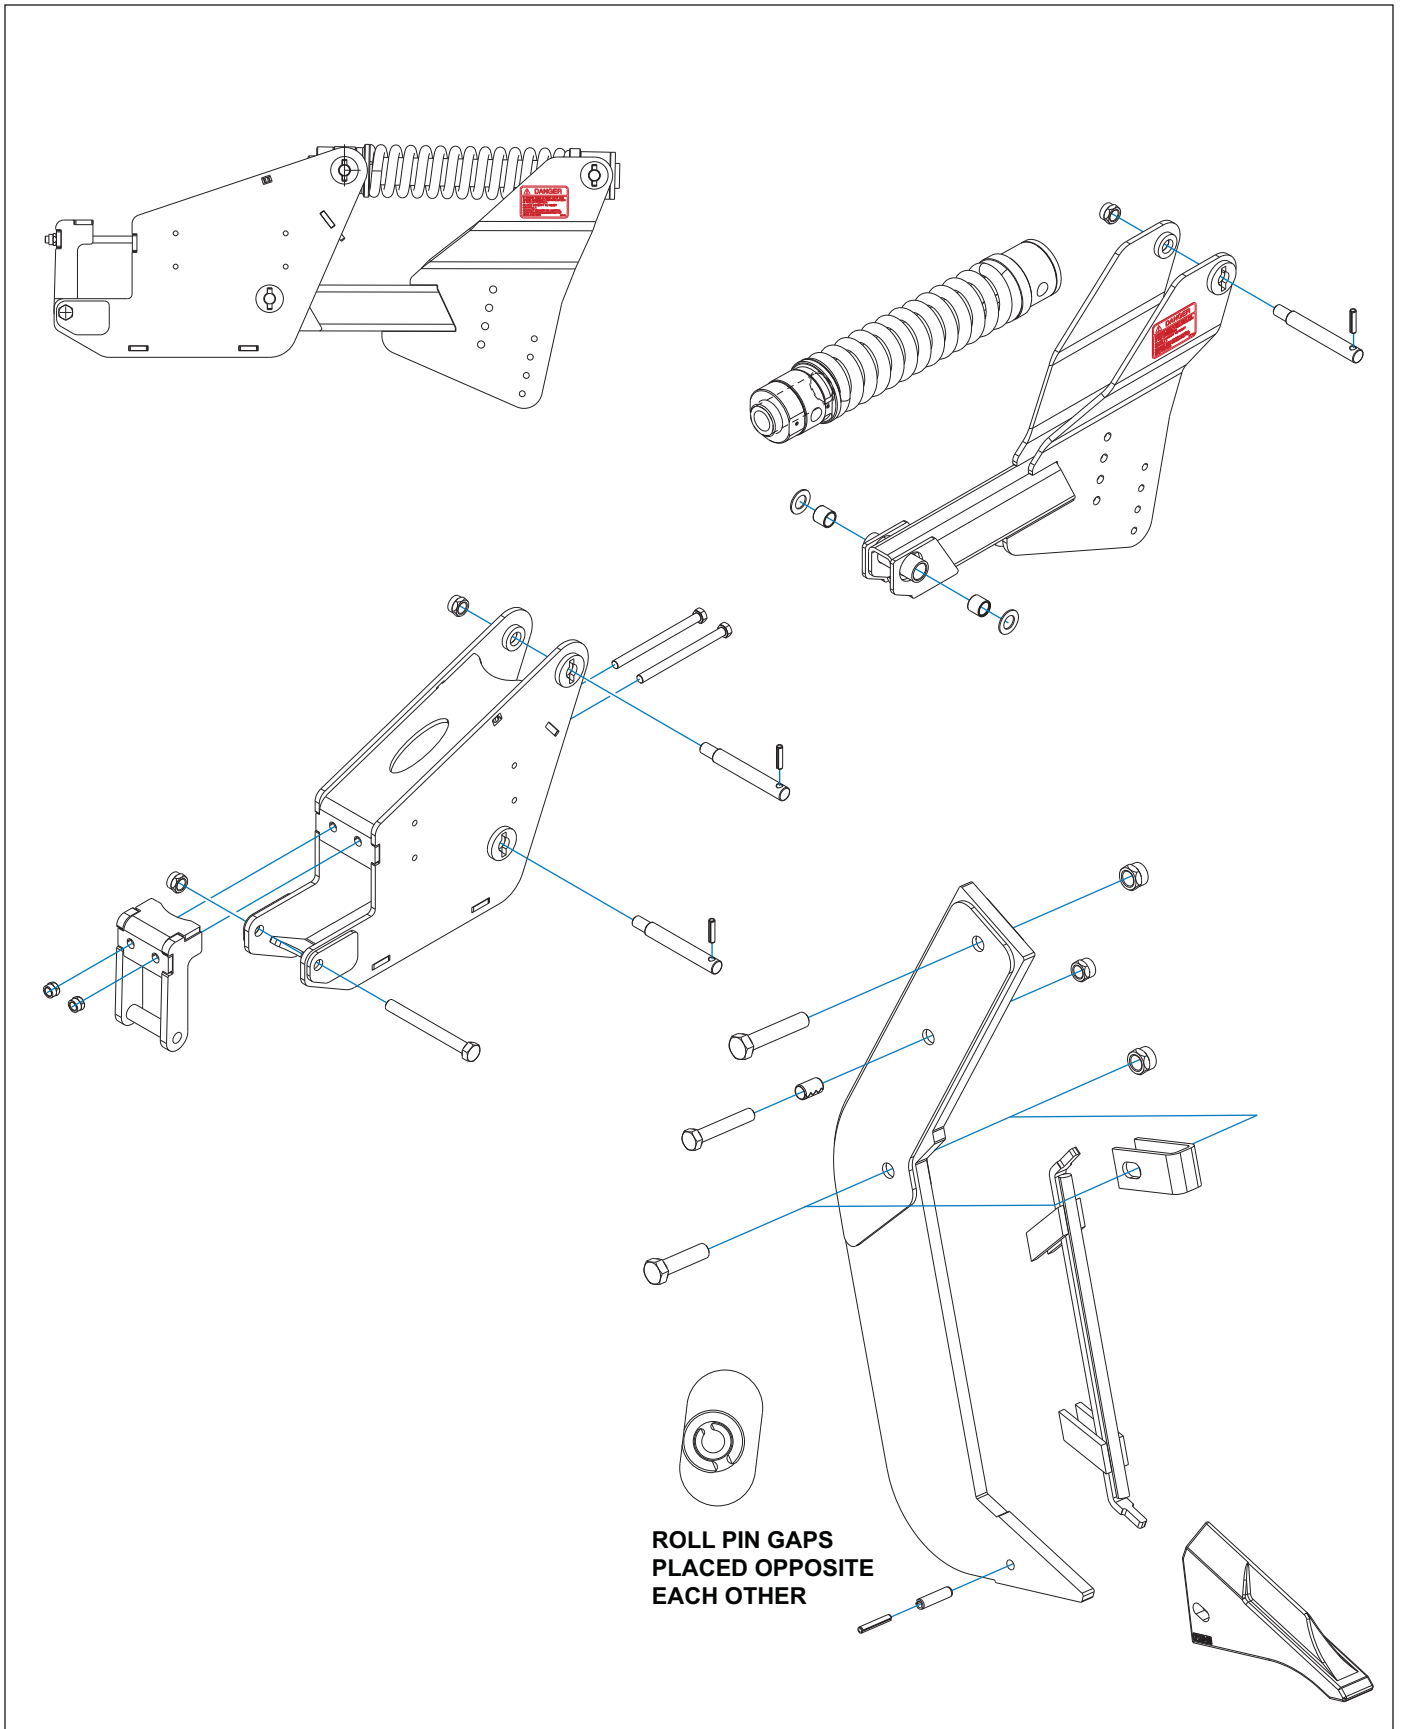

Figure 3-2: Auto-Reset Clamp and Straight Leg Shank Assembly
2. Attach wearstrip to straight leg shank using wearstrip bracket, 3/4-10 x 3 hex head cap screw, and 3/4-10 hex lock nut (*See Figures 3-2 and 3-3.*)